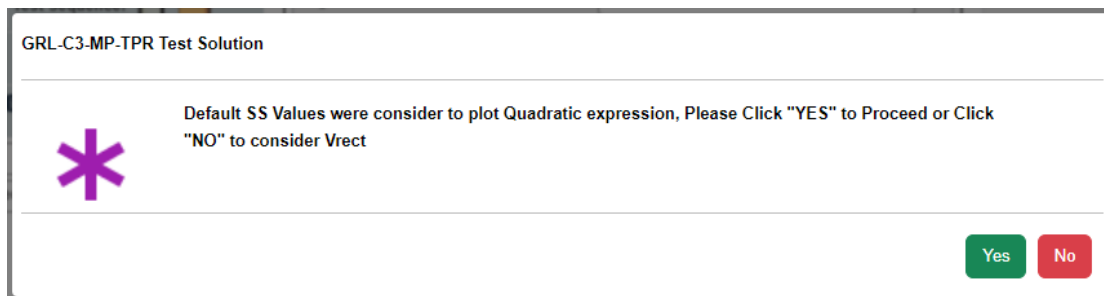

FIGURE 6.10: FIND OPTIMUM COIL POSITION - #5
10. A pop-up message will appear (as shown in Figure 6.10 below) to prompt the user to select the method for optimum coil positioning (using default SS values or Vrect). Click **Yes** to continue with the next step by using the default SS values.